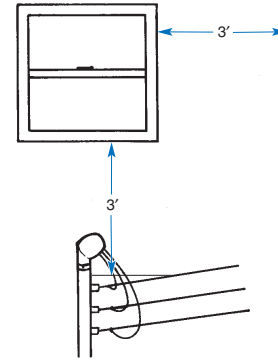

Figure 10-26. Clearances around building platforms and openings.
- At building openings, **Figure 10-26**